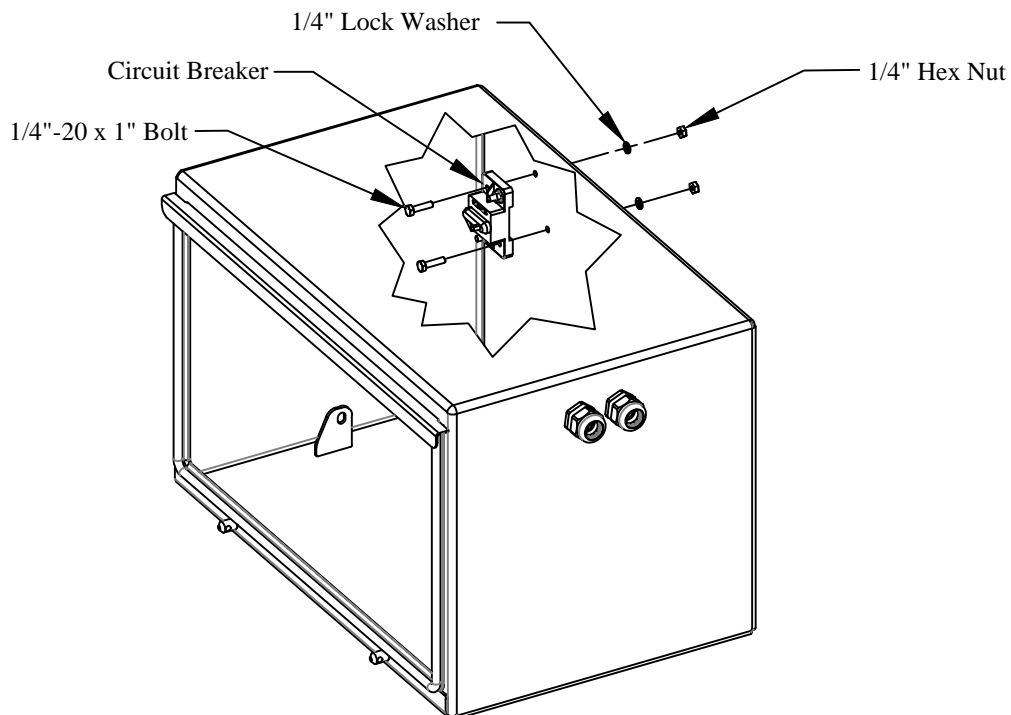

Figure 5: Circuit breaker installation.
3. **Fasten** the circuit breaker to the auxiliary battery box with the supplied 1/4"-20 x 1" bolts, lock washers, and nuts (Figure 5).